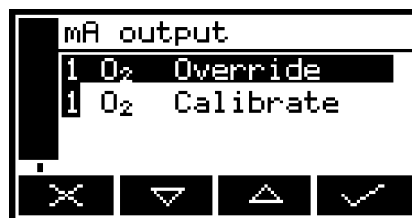

Figure 36 - The mA output service screen
1. Press the  soft key to display the Menu screen, use the  and  soft keys to highlight the "Service" menu option, then press the  soft key. The mA output service screen will then be displayed: see Figure 36.
4. When the milliAmp output has been correctly calibrated, press the  soft key: the mA output service screen (Figure 36) will then be displayed again.